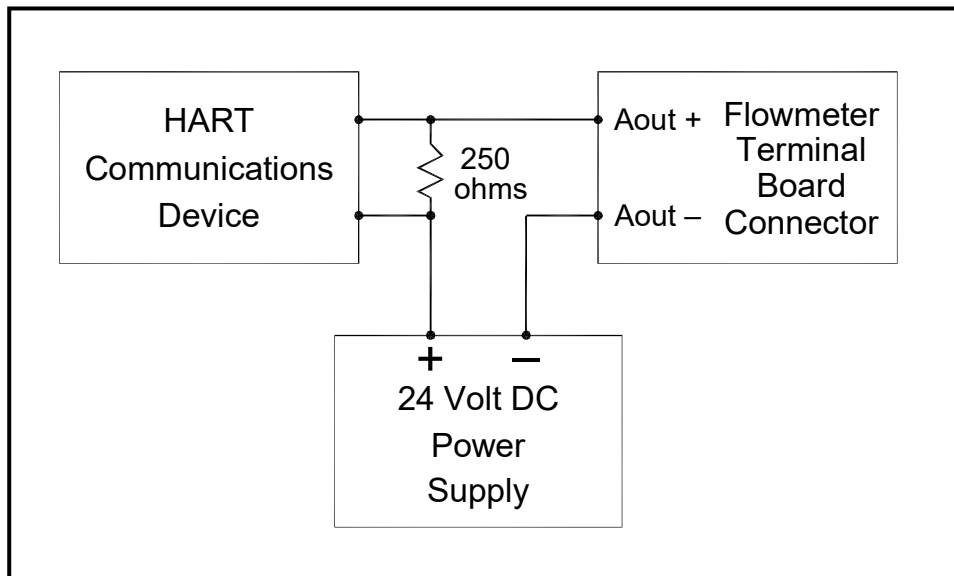

Figure 221: HART Wiring (Ext. Supply/Passive Mode)
1. Interconnect the **HART** interface and the HART device as shown in *Figure 221* below.